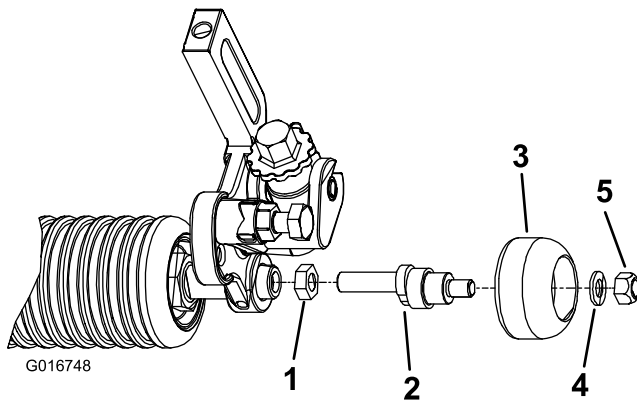

Figure 1
2. Thread the top deform jam nut all the way onto the longer threaded end of the offset shaft (Figure 1). The deformed end of the jam nut goes on last. Do not tighten.
3. Apply Blue Loctite onto the threads of the longer threaded end of the offset shaft (Figure 1).
5. Insert the auxiliary roller assembly onto the other end of the offset shaft and secure with a washer and a lock nut (Figure 1).